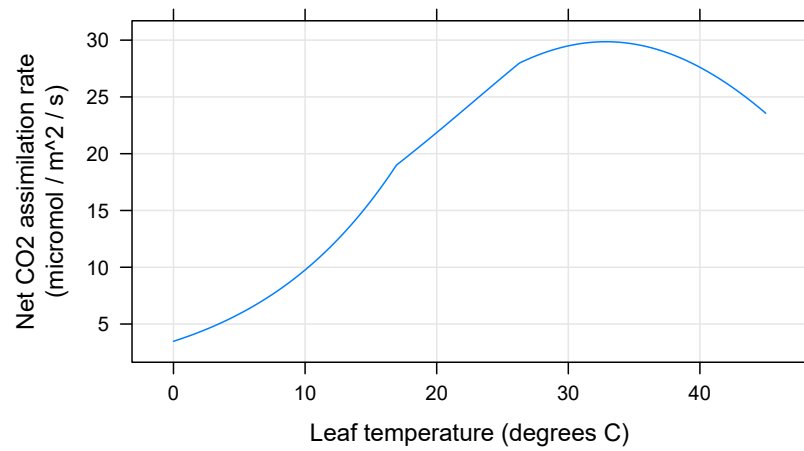

Figure 3: Response of soybean net assimilation to leaf temperature.
- Calculate a temperature response curve for soybean assimilation, in analogy to the light response curve we calculated in Section 4. (See Figure 3 for a possible solution.)